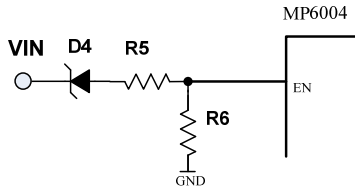

Figure 4—VIN UVLO setting with EN control
In flyback mode, the maximum on time is limited at about 8 μs. The secondary-side rectifier diode conduction time should be longer than 3 μs for FB1 feedback sampling. If V_{IN} decreases and the inductor current cannot ramp the I_{PK} to setting value within the maximum on time, the diode conduction time decreases to less than 3 μs, causing FB1 feedback sample failure. The MP6004 treats this failure as a V_{OUT} drop and generates more pulses, causing V_{OUT} to overshoot. In this condition, EN can be used to program V_{IN} UVLO and shuts down the part before V_{IN} drops (triggering the maximum on time). Since the EN high-level voltage is 3.9 V and the low-level voltage is 1.3 V, it is hard to program the V_{IN} UVLO with a small hysteresis. In this condition, one resistor divider and one Zener diode is recommended (see Figure 4).
There is an internal Zener diode on EN, which clamps the EN voltage to prevent runaway. The maximum pull-up current for the internal Zener clamp (assuming 6.5 V) should be less than 0.5 mA. If EN is driven with an external signal, use a signal voltage less than 6.5 V or connect EN to the signal through a pull-up resistor that ensures the maximum pull-up current is less than 0.5 mA. If using a resistor divider (see Figure 4) and $V_{IN} - V_{ZENER}$ is higher than 6.5 V, the minimum resistance for the pull-up resistor R5 should be calculated with Equation (10):